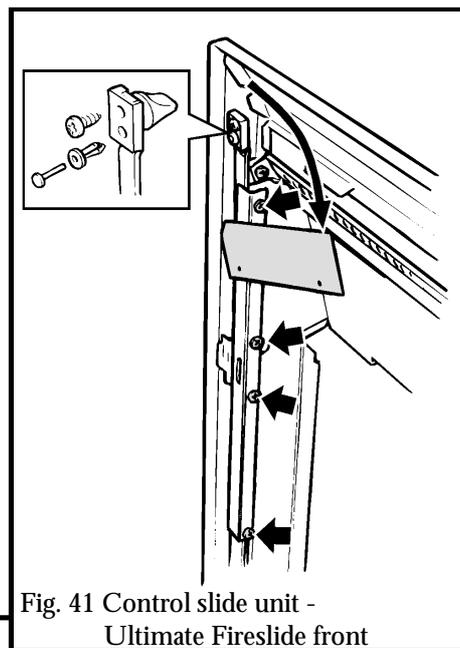

Fig. 41 Control slide unit - Ultimate Fireslide front
13.4A.2 Swing the rear shield plate towards the centre to access the back of the button. (See fig. 41).
13.4A.3 Remove the screw securing the slide button to the back of the slide unit. Pull the centre pin out of the plastic plug which is securing the slide button and then remove the plug (See fig. 41). Raise the slide button so that it clears the slide bar and pull it through the slot in the surround side).
13.5A.2 Remove the four screws securing the plastic slide mechanism angle bracket to the rear side of the surround (See figure 41). Lift the slide unit clear.